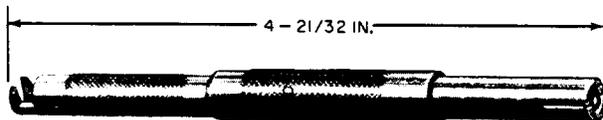

Fig. 28—KS-19092, L1, Insertion and Extracting Tool
2.30 **KS-19092, L1**: The KS-19092, L1, inserting and extracting tool (Fig. 28) is used with 24-gauge strap wire on wedge terminals of printed circuits.